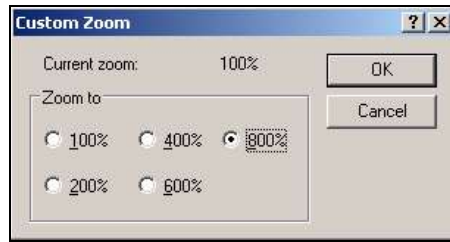

Figure 5-56: Custom Zoom
- 2 Navigate to *View > Zoom > Custom*. The *Custom Zoom* (see Figure 5-56 on page 5-61) dialog box appears.